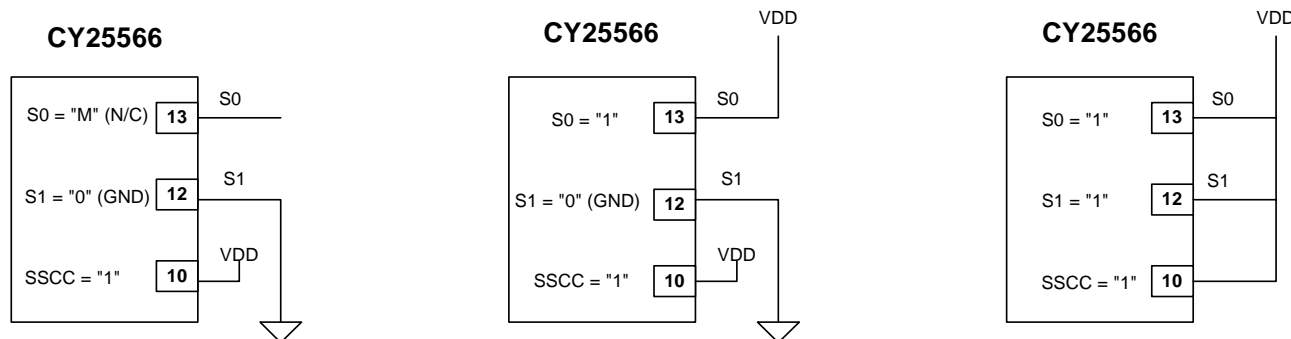

Figure 2.
The CY25566 provides four output clocks: SSCLK1a, SSCLK1b, SSCLK2, and REFOUT. SSCLK1a/b and SSCLK2 are modulated clocks and REFOUT is a buffered copy of the reference clock or oscillator. The CY25566 frequency and spread % ranges are selected by programming S0, S1, S2, and S3 digital inputs. S0 and S1 use three (3) logic states including High (H), Low (L), and Middle (M) to select one of nine available frequency and spread % ranges. Refer to *Figure 2* for details on programming three level inputs S0 and
Figure 2 illustrates how to program tri-level logic.